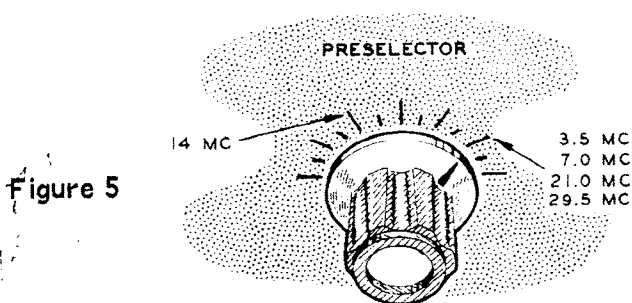

Figure 5
NOTE: It is very important that the PRE-SELECTOR be adjusted properly during the rest of the Alignment procedure. The proper PRE-SELECTOR knob settings for the various bands are shown in Figure 5.
- () All front panel controls should be set as described for the previous adjustments. Be sure to turn the PRESELECTOR to the position indicated in Figure 5 for the band being aligned.